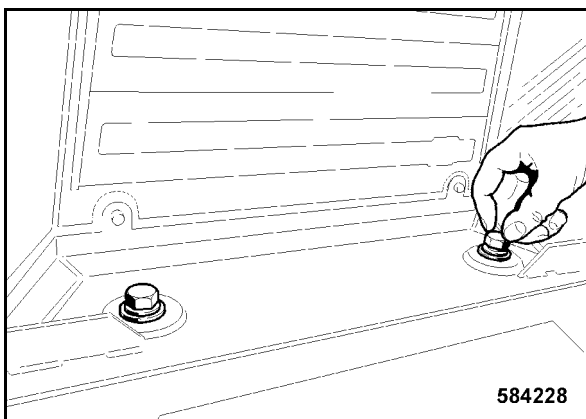

Fig. 209
- Turn both fastening screws (Fig. 209) at the rear of the cabin in handtight.